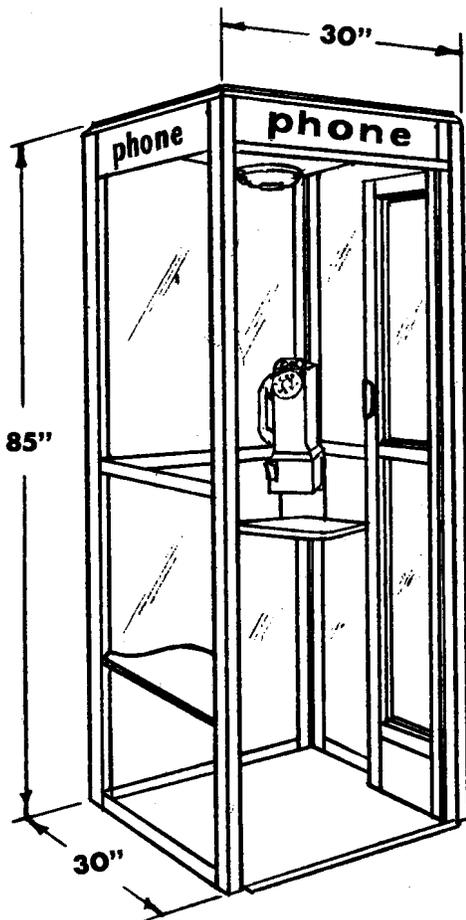

Fig. 1
1.02 The BN 500-A3 is designed for indoor use and is equipped with a blower for air circulation and a seat. (See Fig. 1)